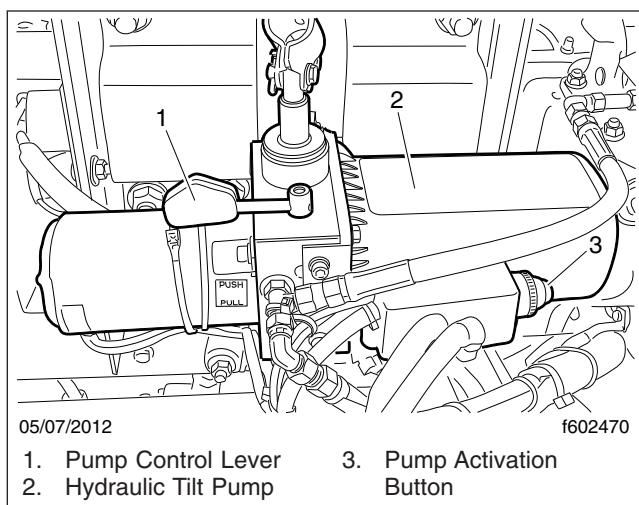

Fig. 2.13, Cab Tilt Pump
6. Move the pump control lever to the TILT position. See Fig. 2.13.